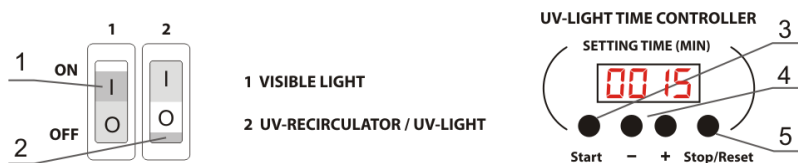
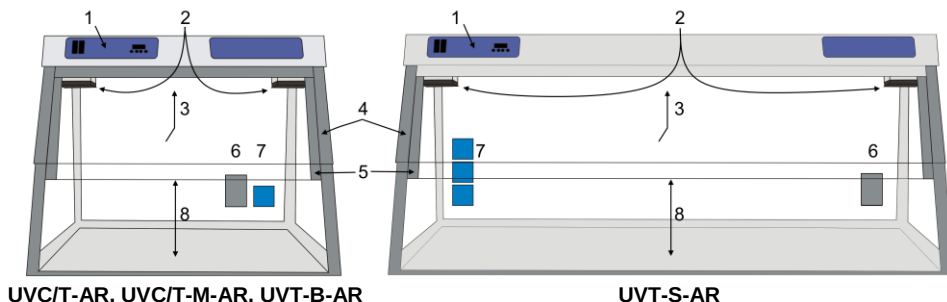

Figure 2. Control panel
Figure 3. DNA/RNA UV box, frontal view:
5.2.1. Turn ON the switch **2** (fig. 2/2) on the control panel (fig. 3/1). This switches on the UV recirculator inside the unit (fig. 3/2) and the open UV-lamp exposition timer. The UV recirculator will operate all the time until the switch **2** is turned OFF.
5.2.2. Use the timer + and - keys (fig. 2/4) to increase and decrease the time (SETTING TIME) of direct UV light exposition of the working place, with 1 min increment. Pressing down and holding the button for more than 2 seconds increases the increment. Recommended time of exposition is two sessions of 30 minutes, once after switching on the cabinet, once before operations inside.
- 5.2.3. Press the **Start** key (fig. 2/3), the UV lamp will be turned on automatically and the timer will start counting the exposition time. Timer indicator shows actual time: until 1 hour - in minutes and seconds (mm:ss), after 1 hour - in hours and minutes (hh:mm). After reaching the set time the timer will automatically turn off the open UV lamp.
- 5.2.4. The open UV lamp can be switched off by pressing the **Stop/Reset** key (fig. 2/5). The set time of exposition will be saved in the memory. The set time will not be saved after the complete turning off the unit.
- 5.3.1. Turn ON switch **1** (fig. 2/1) for lighting of the working place. This turns ON the luminescent (visible light) lamp inside the cabinet (fig. 3/3).
- 5.3.2. Lift the front protective screen (fig. 3/5) up for work in the cabinet. Models have different maximum opening heights (fig. 3/8), as listed in the **Specifications** section, and may be raised to the following positions:
Do not block the recirculator openings (fig. 3/2)!
- 5.3.3. To use electric devices inside the cabinet, pull their power cable through the inlet and close the flap (fig. 3/6) or connect the power cable to a built-in mains socket (fig. 3/7, models with mains socket).
- 8.5. **Dust filter replacement.** The dust filters (fig. 3/2) on either end of the UV recirculator with the hidden UV lamp should be checked monthly and cleaned or replaced when they become clogged. To check, replace or clean the filters, simply unclip the covers, fit a new filter if necessary or rinse current filters in water, dry and place back. Clip covers back in place.